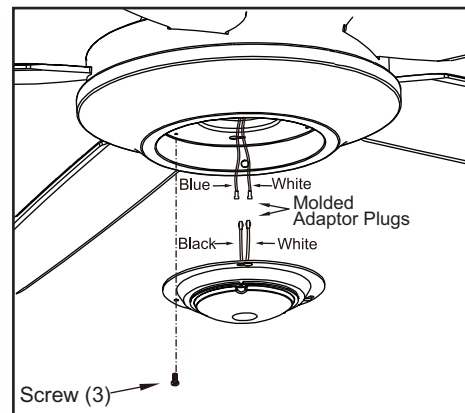

Figure 14
3. Remove one screw from the light kit pan and loosen, but do not remove the other two screws. Connect the wires from the light kit fitter assembly to the wires from the fan motor assembly by connecting the molded adaptor plugs together. Carefully tuck all wires and splices into the switch cap. (Figure 14)
4. Push the light kit fitter assembly up so that the two loosened screw heads fit into the keyhole slots. Turn the light kit fitter assembly clockwise, tightened the screws. Re-install the screw that was removed in step 3 and tighten firmly. (Figure 14)